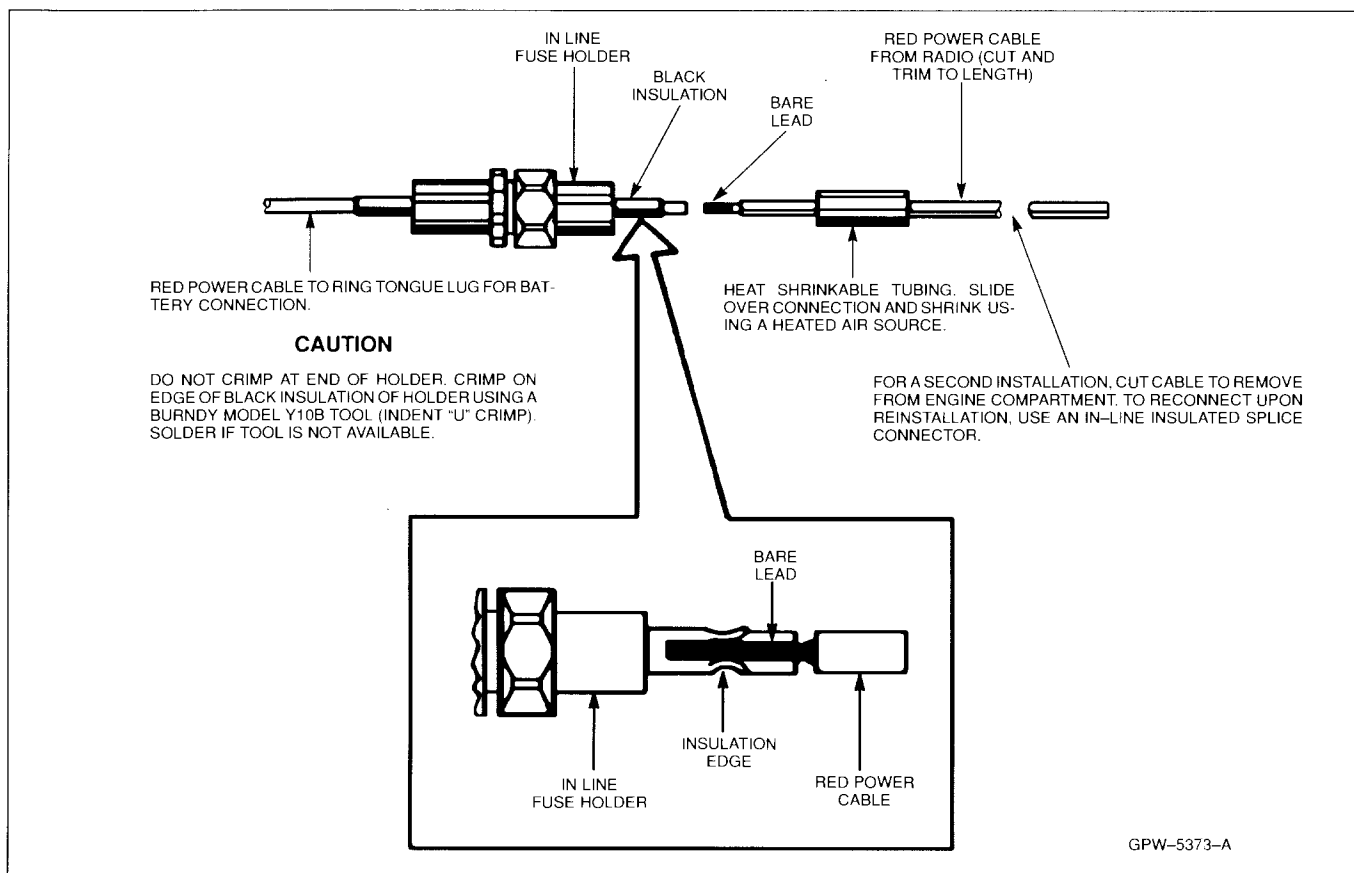

Figure 4. Fuse Installation
- (4) Pull the red power cable into the engine compartment. A cable fuse kit comes with a ring tongue lug on one end and an in-line fuseholder on the other. Each cable includes a small section of heat-shrinkable tubing. Trim any excess length of red cable. Slide the heat-shrinkable tubing over the red power lead from the radio. Slide the strapped portion of the red cable into the end of the in-line fuseholder and crimp the joint using a Burndy Model Y10B (indent "U" crimp). If this tool is not available, solder the joint. See Figure 4.
- (5) Slide the heat-shrinkable tubing over the connection and shrink the tubing with a Motorola Model ST697 Heat Gun or equivalent heated air source. Remove the fuse from the fuseholder and reconnect the holder. Fasten the ring-tongue lug on the end of the cable to the battery's ungrounded terminal or to some point directly connected to the ungrounded terminal of the battery (such as the starter solenoid). Move the in-line fuseholder to a convenient location on one of the sheet metal parts of the engine compartment. Center punch and drill a 9/64"